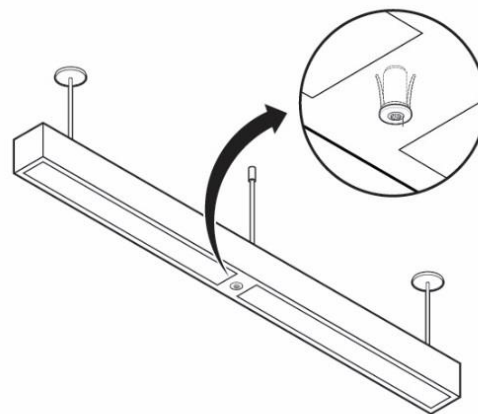

Figure 3: Sensor location in a fixture
4.	Note: The sensor is designed to mount in a ½ inch trade size knockout on a fixture. Determine the location for the sensor in the fixture and cut a ½ inch knockout in the fixture. See Figure 3.